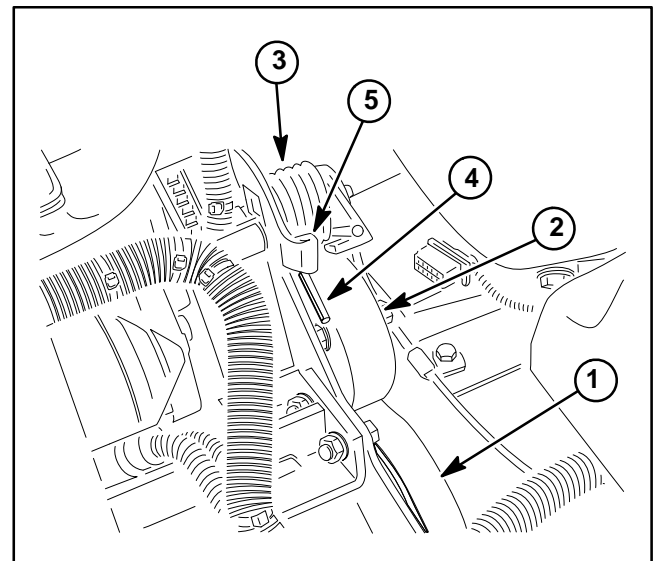

Figure 46
3. Remove pump drive belt tension from torsion spring on idler arm (Fig. 46).
4. Apply pump drive belt tension with torsion spring on idler arm (Fig. 46).